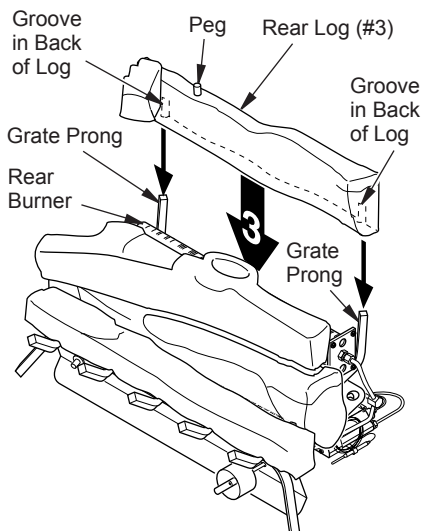

Figure 23 - Installing Rear Log (#3) [18" Variable Manually-Controlled Set Shown]
3. Slide the grooves in the back of the rear log (#3) against the rear grate prongs. Make sure the peg on the log is on top (see Figure 23).